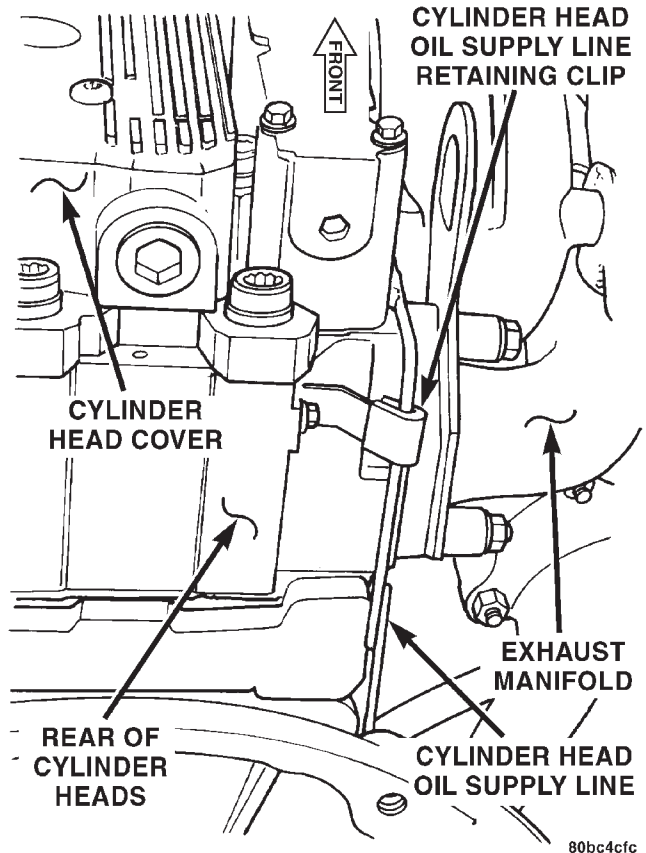

Fig. 70 Cylinder Head Oil Supply Line Retaining Clip
(16) Install the oil feed line support bracket at rear of the cylinder head (Fig. 70). Torque bolt to 5.5 N·m (4 ft. lbs.).